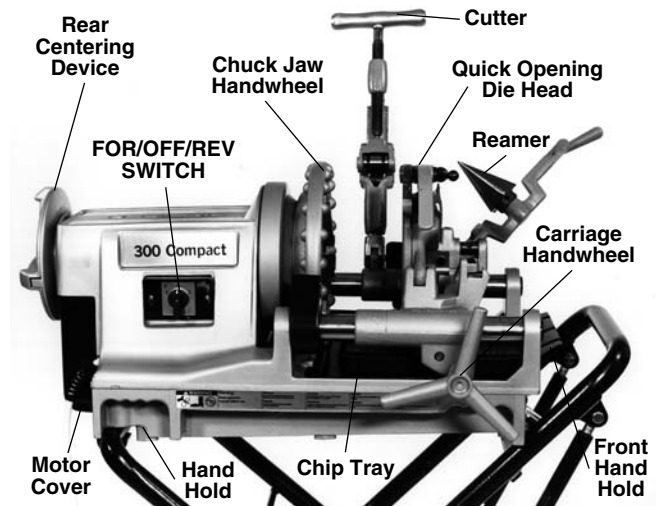

Figure 2 – No. 300 Compact Threading Machine
1. Make sure Threading Machine is unplugged and the directional switch is set to the OFF position (*Figure 2*).